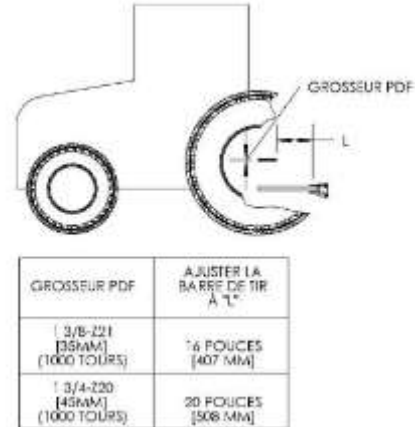

Figure 1A
5. Adjust the draw bar of the tractor so that the mounting hole is located 35 to 46 cm (14 to 18 inches) from the end of the tractor PTO [Figure 1A]. To obtain a PTO shaft centered, this length should also be maintained